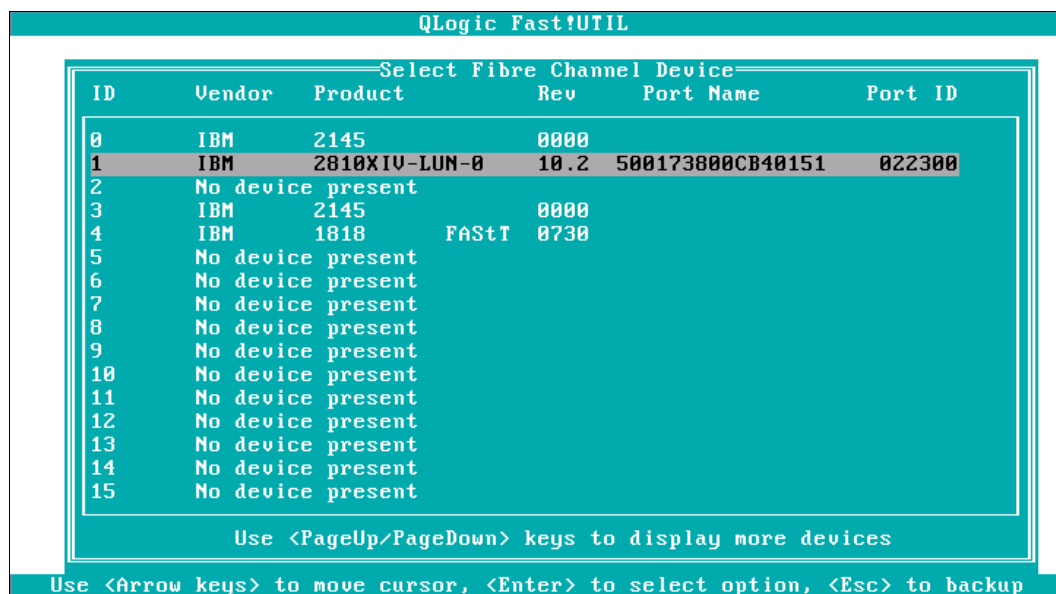

Figure 4-7 QLogic configuration panel: Select Fibre Channel Device
9. From the *Select Fibre Channel Device* panel in Figure 4-7, select the **IBM 2810XIV** device, and press Enter.